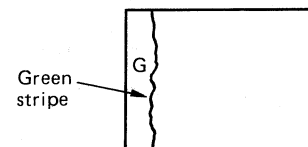

Fig. 4-2-27
- Adjust DF-H LEFT VR15 and DF-H LEFT BIAS VR16 so that the vertical green stripe at the left side of colour monitor is reduced to a minimum. (Fig. 4-2-27)